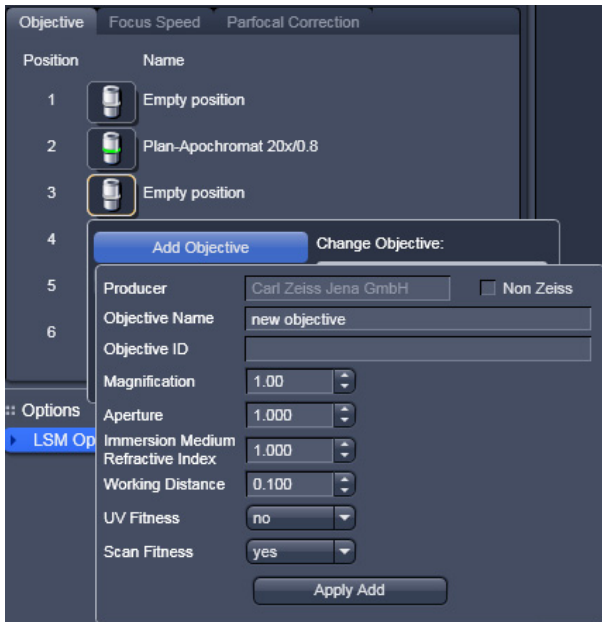

Fig. 5-124 Editing a new objective
- An expansion (**Create new Objective**) window is opened (Fig. 5-124).